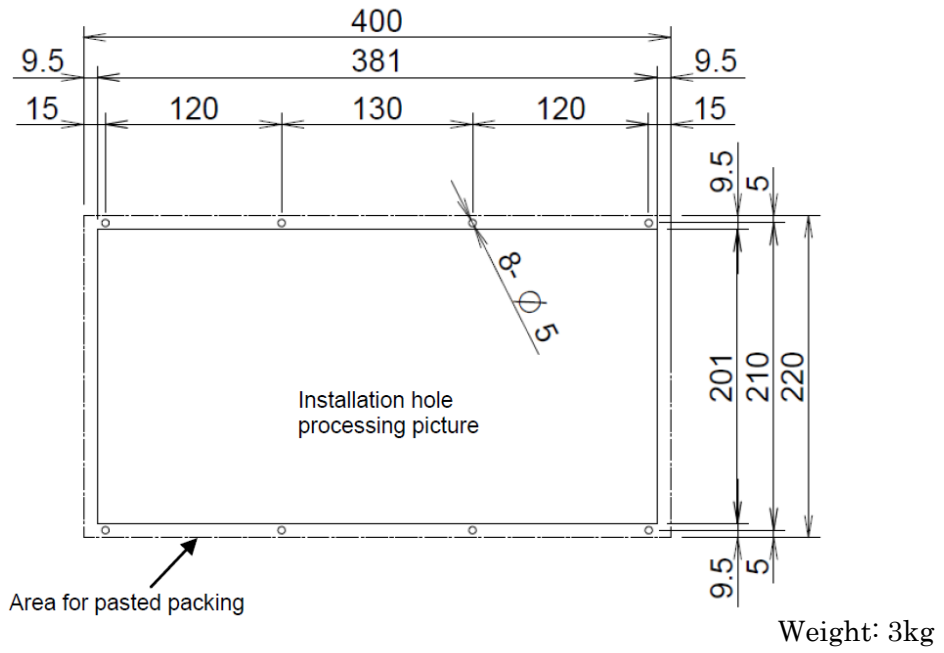

Fig. U13 10.4" LCD/MDI unit(Horizontal) ④
10.4" LCD/MDI unit(Horizontal)	Fig. U13